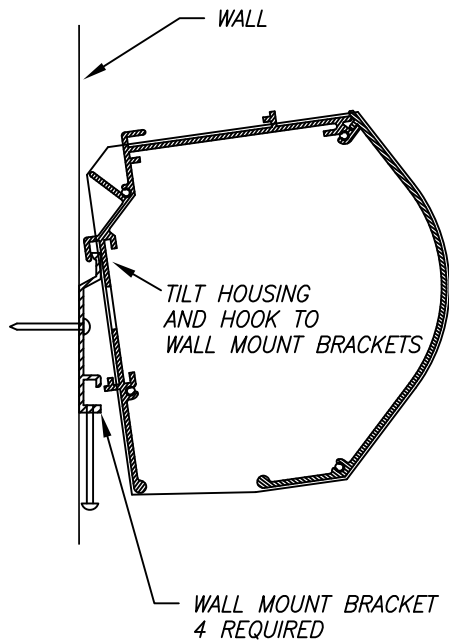

FIGURE 1
- 2 - TILT HOUSING AT A SLIGHT ANGLE AND HOOK IT TO WALL MOUNT BRACKETS AS SHOWN IN FIGURE 1.